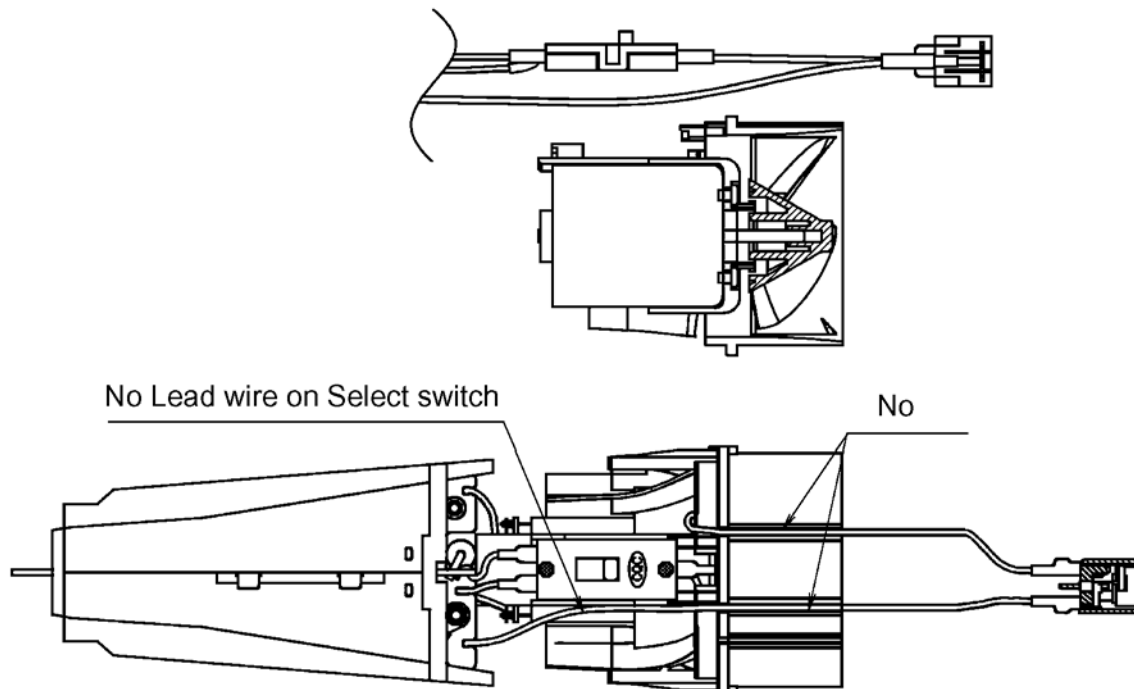

Figure 7
5. Assembly Select switch to Motor ass'y block ,insert two Lead wires (Black and Red) into slot of Air flow regulator as show in figure 7.